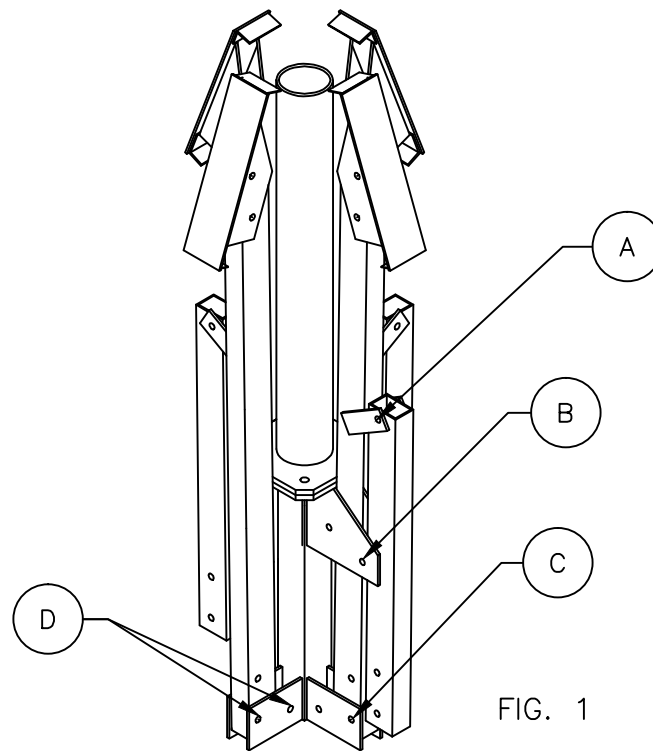

FIG. 1
THE VL-4 MOUNTING SYSTEM IS SHIPPED ASSEMBLED AS SHOWN IN FIG.1
- 1.) THE FOLLOWING INSTRUCTIONS WILL BE HELPFUL IF THE UNIT WAS NOT RECEIVED PACKAGED AS SHOWN IN FIGURE 1.
- 3.) LOCATE A 56" ARM & WITH THE TABS POINTING DOWNWARD & AWAY FROM THE BASE. ATTACH THE ARM TO THE UPPER FINS ON THE BASE WITH (2) 1/2"x3-1/4" BOLTS, NUTS & LOCKWASHERS (NOTE: DO NOT TIGHTEN HARDWARE UNTIL MOUNT ASSEMBLY IS COMPLETE).
- 4.) ATTACH THE 31" BRACE TUBE TO THE LOWER FINS ON THE BASE USING (2) 1/2"x3-1/4" BOLTS, NUTS & LOCKWASHERS. ATTACH THE OTHER END OF THE BRACE TO THE TABS ON THE 56" LONG ARM TUBE USING (1)1/2"x3-1/4" BOLT, NUT & LOCKWASHER. (NOTE THE SINGLE HOLE ON THE ON THE BRACE SHOULD BE TOWARDS THE TOP OF THE TUBE).
- 5.) ATTACH A SHOE TO THE END OF EACH OF THE 56" LONG ARMS USING (2) 1/2"x3-1/4" BOLTS, NUTS & LOCKWASHERS PER SHOE.